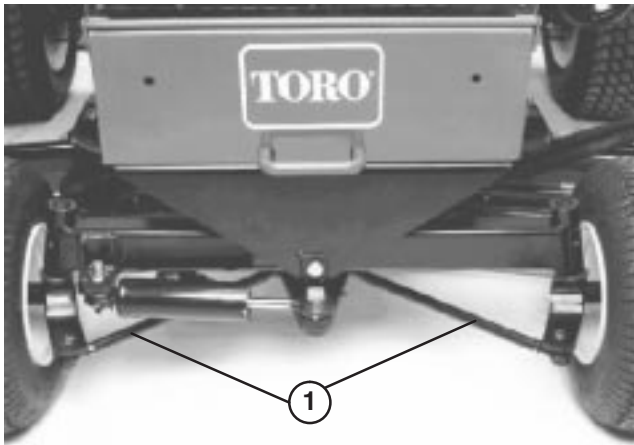

Figure 69
2. Loosen the jam nuts on both tie rods (Fig. 69). Adjust both tie rods equally until center-to-center distance at front of rear wheels is 0-1/8 in. (0-3 mm) less than at the rear of the wheels.